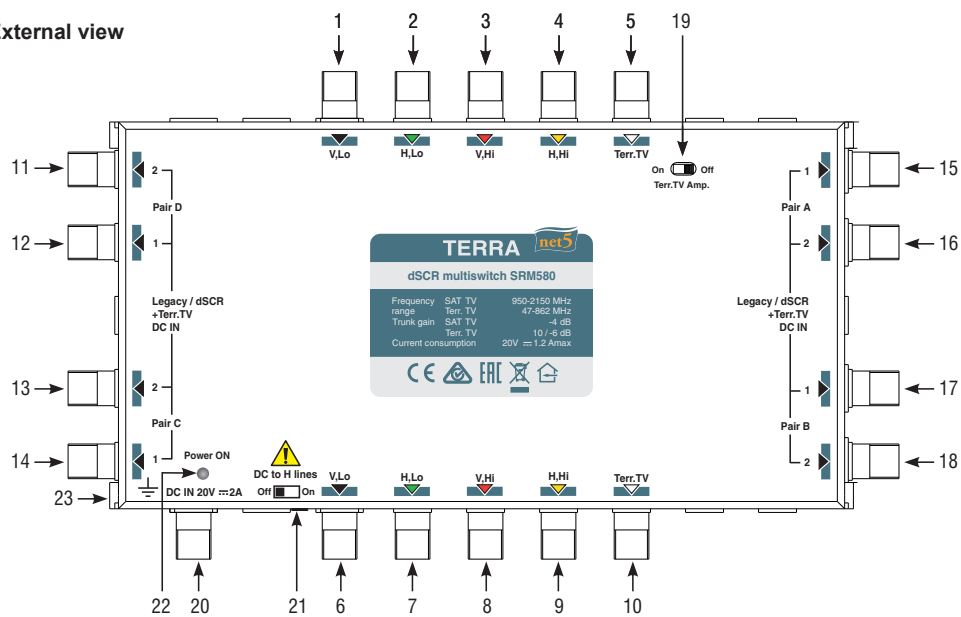

Figure 1. External view of the multiswitch
DO NOT OPERATE THE DC POWER TO H TRUNK LINES SWITCH (see Figure 1, pos.21) unless you totally understand the power demands of the system and confirmed they are 2 A or less. **ALWAYS LEAVE THE DC POWER TO H TRUNK LINES SWITCH IN THE "OFF" POSITION** when inserting SRM580 into an existing multiswitch installation.
Power ON indication LED (see Figure 1, pos. 22) glows green at any of the 4 powering modes.
1. Bypass mode - switch (see Figure 1, pos. 14) position OFF. DOCSIS signals can pass through.
2. Active mode - switch (see Figure 1, pos. 14) position ON.
2. All outputs are configured to connect **Legacy** STB (+13 V/+18 V/22 kHz), but it switches to **Dynamic mode** SCR/dSCR if receives a DiSEqC command according EN50494/EN50607 (**Active mode**). Output User Bands (UB) are the same in all subscriber outputs (see Table 2).
5. Terr. TV bypass mode switch (see Figure 1, pos. 19) in position "**OFF**" (see "**Technical characteristics**").
6. DC power to H trunk lines switch (see Figure 1, pos. 21) in position "**OFF**".